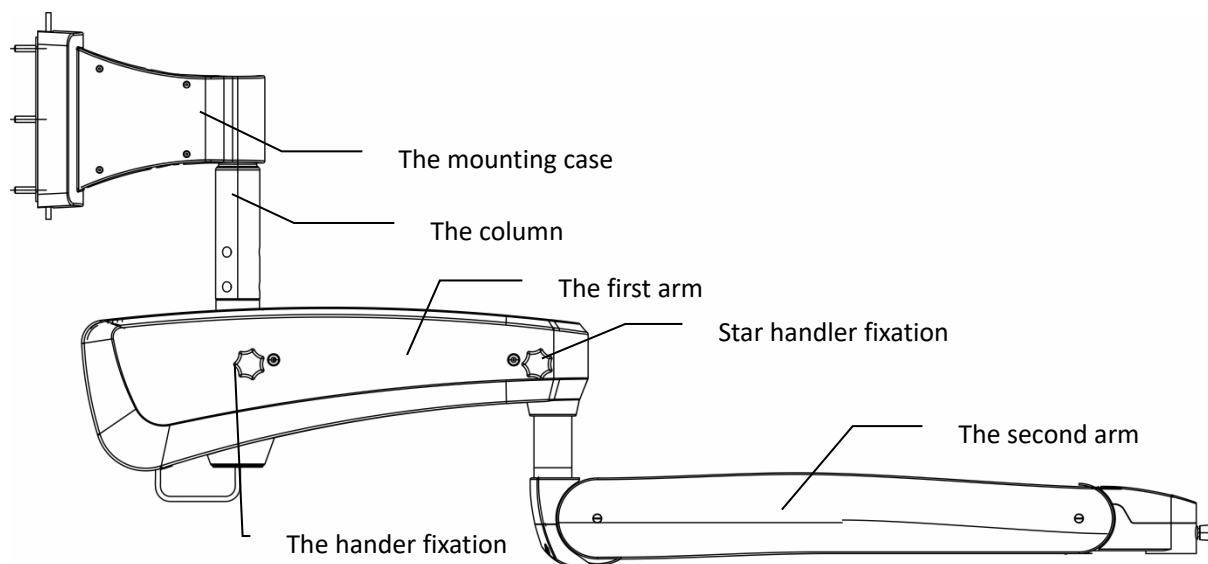

Fig.29 General assembly drawing of microscope
- (1) Wall should be concrete block (more than 15cm on center).
- (2) Selecting mounting height (Referred to Fig.29). If the typical position is not available, please locating the microscope by your suitable height. The preferred mounting zone should ensure that there is maximum maneuverability of microscope in all direction.
(3) Drill 6 holes in the wall surface, the hole diameter is 14mm, The hole-depth is 80mm